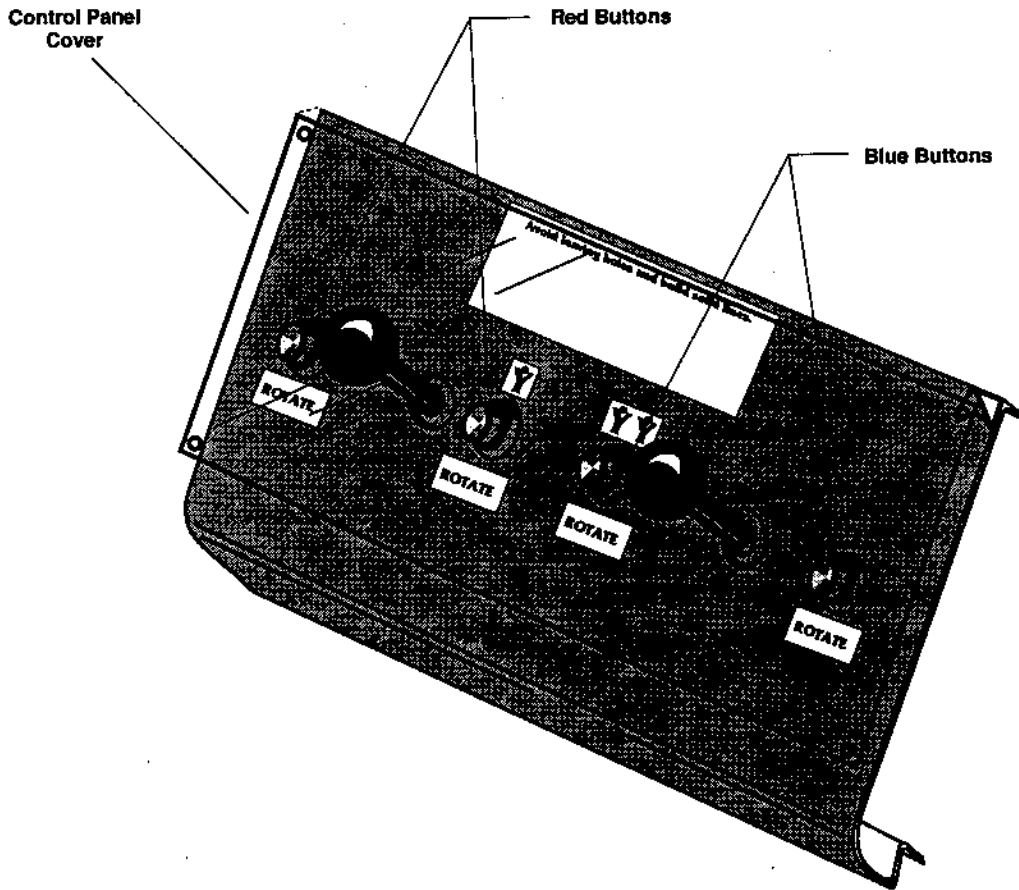

Figure 1-2 Converting the Control Panel
- Determine the location of the player pushbuttons and joysticks on the control panel. (See Figure 1-2.)
- Install the button labels on the control panel. (See Figure 1-2.)
- Install the instruction label (part no. 046506-01) on the control panel. (See Figure 1-2.)
- Cut holes into the cover to match the holes cut into the control panel. Then trim as required to protect the control panel overlay and labels. (See Figure 1-2.) **Note:** You can use the new cover to protect unused holes in the control panel.
- Install the red player control buttons (part no. 178237-001) for the left player. (See Figure 1-2.)
- Install the blue player control buttons (part no. 178237-005) for the right player. (See Figure 1-2.)